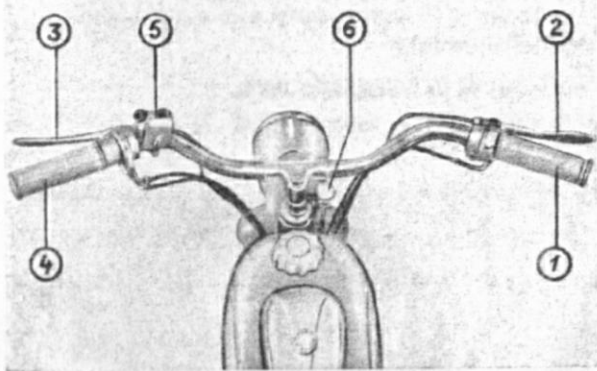

Fig. 1: Operating levers on the handlebar
1. Throttle twist grip (Fig. 1, No. 1)
2. Hand brake lever (Fig. 1, No. 2)
3. Clutch lever (Fig. 1, No. 3)
4. Gearshift twist grip (Fig. 1, No. 4)
5. Dimmer switch (Fig. 1, No. 5)
6. Choke button (Fig. 1, No. 6)